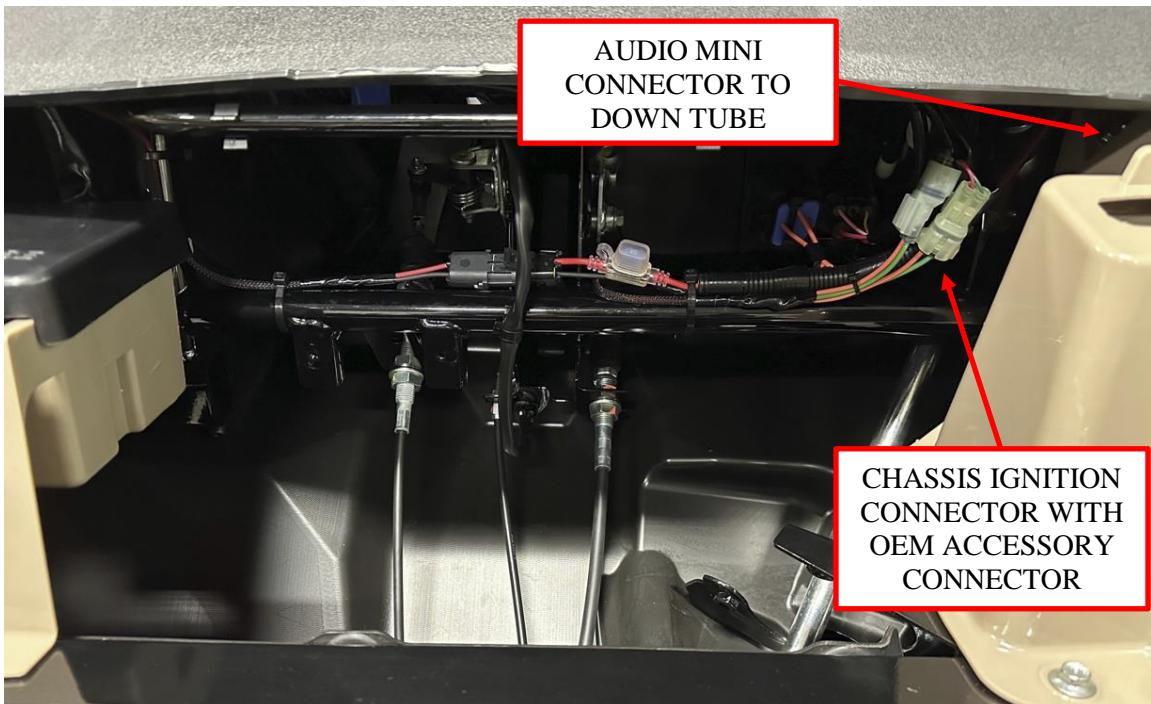

Figure 9: Line up the chassis harness and route the *Audio Mini* connector.
10. Starting under the hood, route the end of the chassis harness with the single *Audio Mini* connector toward the driver's side down tube (A-pillar). Then pull the harness through the opening until the chassis ignition connector lines up with the OEM accessory connector. See Figure 9.